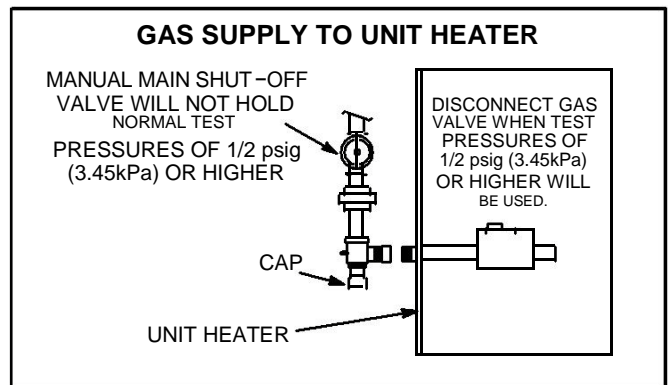

FIGURE 8
The heater and its individual shut off valve must be disconnected from the gas supply piping system during any pressure testing of that system at test pressures in excess of 1/2 psig (3.45kPa). See figure 8.
- 2 – After line pressure has been checked and adjusted, check regulator pressure. Adjust manifold pressure to values specified on the unit rating plate. See figure 8. If unit is installed at an altitude greater than 7500 feet (2286m), unit must be derated by four percent for each additional 1000 feet (305m) above 7500 feet (2286m).